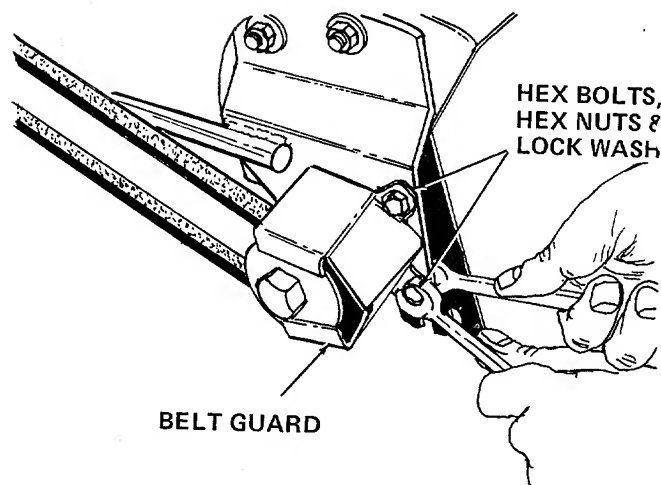

FIGURE 21
2. Remove the belt guard at the spindle assembly by removing two hex bolts, lock washers and hex nuts. See figure 21.